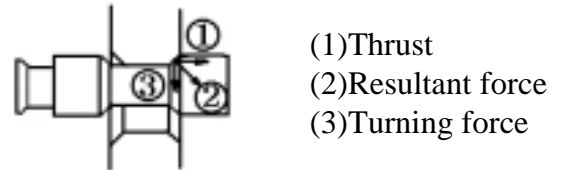

Fig. 5-6 Synchro-ring and cup
When hub(2) is pushed further, the tapered surface in the hole of the hub and the tapered surface on the block pin are pressed tightly against each other, this pushes synchro-ring(4) against synchro-cup(5). Consequently, as shown fig.5-6, the synchro-ring and the synchro-cup are pressed more tightly against each other by the resultant turning force of the rear wheel and the thrust of the shifter. Ultimately, the revolving speeds of the synchro-ring and the synchro-cup become the same.